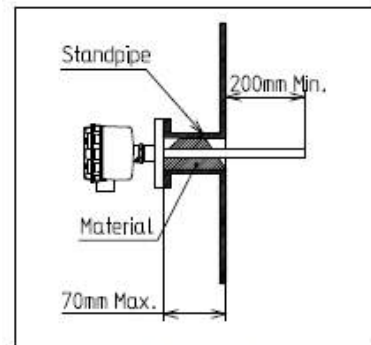

Fig. 5-11
(13) Use a standpipe as short as possible and ensure material will not remain inside. Ensure the detecting pipe projects into the hopper for at least 200 mm. For a standpipe of size 50A and sch20, the maximum length is 70mm. Note that the maximum length depends on material properties and standpipe size. (Fig. 5-11)